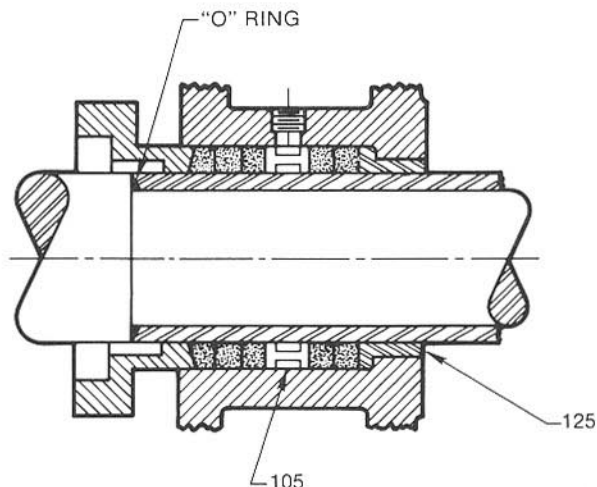

Figure 4 — END SUCTION — 5050 SERIES
2. End Suction (See Figure 4) 5050 Series